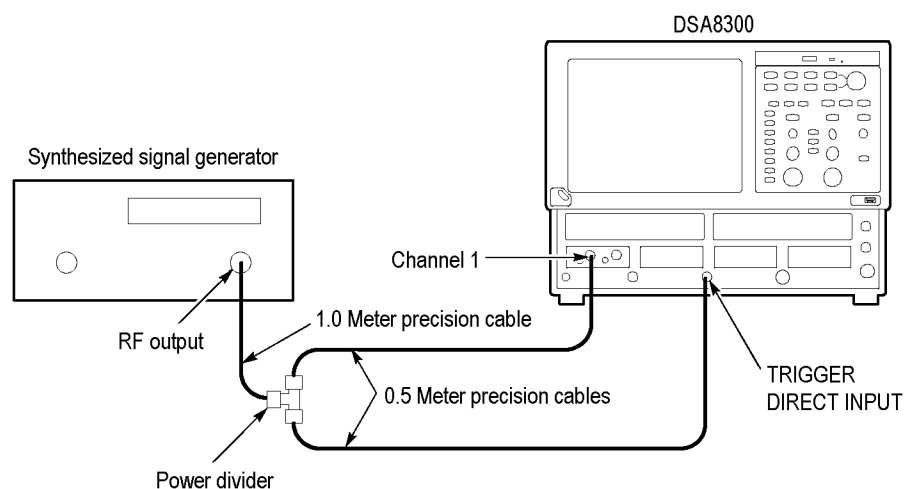

Figure 9: External Trigger Direct Input jitter test setup
2. Connect the test equipment (See Figure 9.)